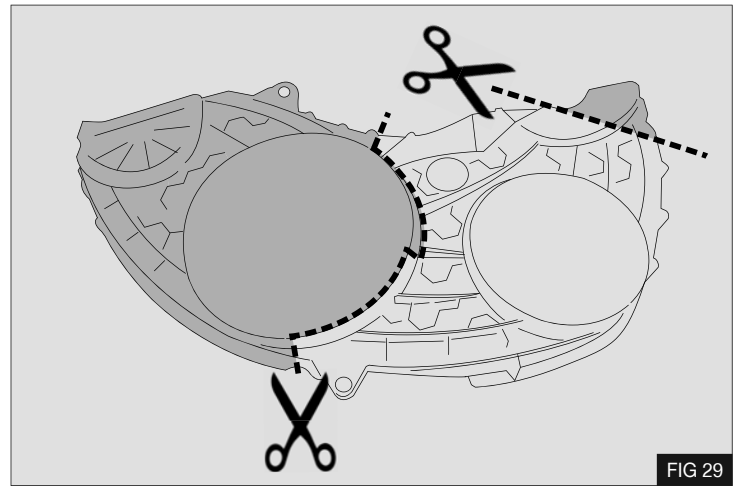

FIG 29
1. Modify the original pulley guard **D** as shown in figs 29/30